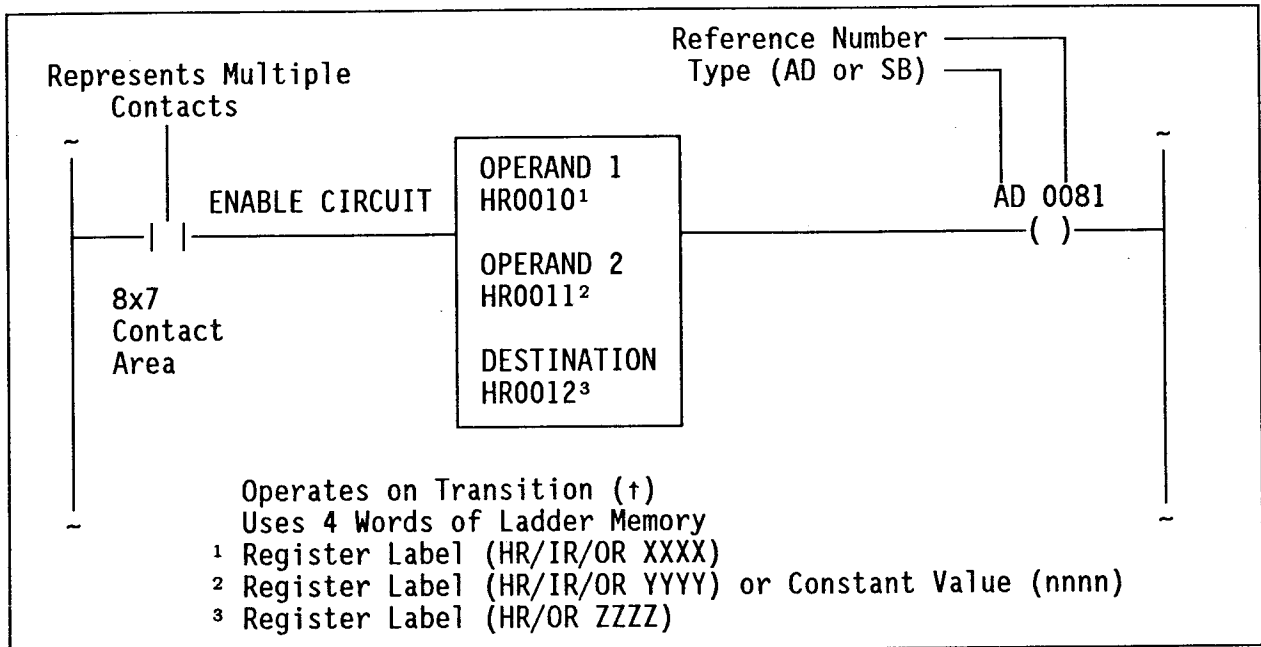

Figure 1. Add/Subtract (AD/SB)
The Add (AD) and Subtract (SB) functions add and subtract four-digit decimal numbers (0 through 9999), producing a four-digit decimal number (0 through 9999) result. Through programming, these functions can provide double-precision addition and subtraction for numbers in excess of four digits. See the AD/SB "Application" description for double-precision operation. AD/SB function symbology is shown in Figure 1.